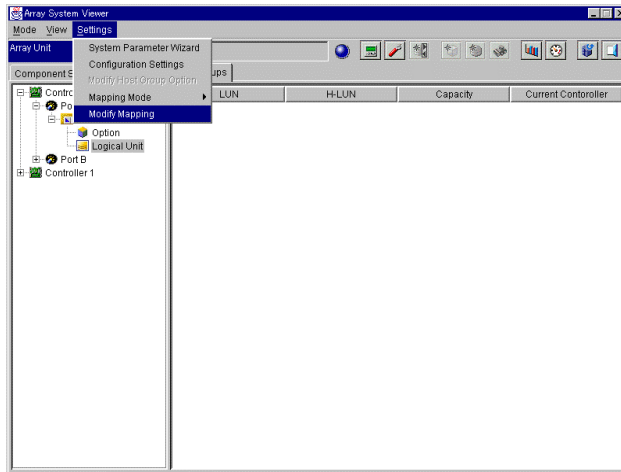

Figure 3.8 Modify Mapping in the Setting Menu
1. Select a **Logical Unit** icon in the Host Group and then select **Modify Mapping** in the **Settings** menu (see Figure 3.8).